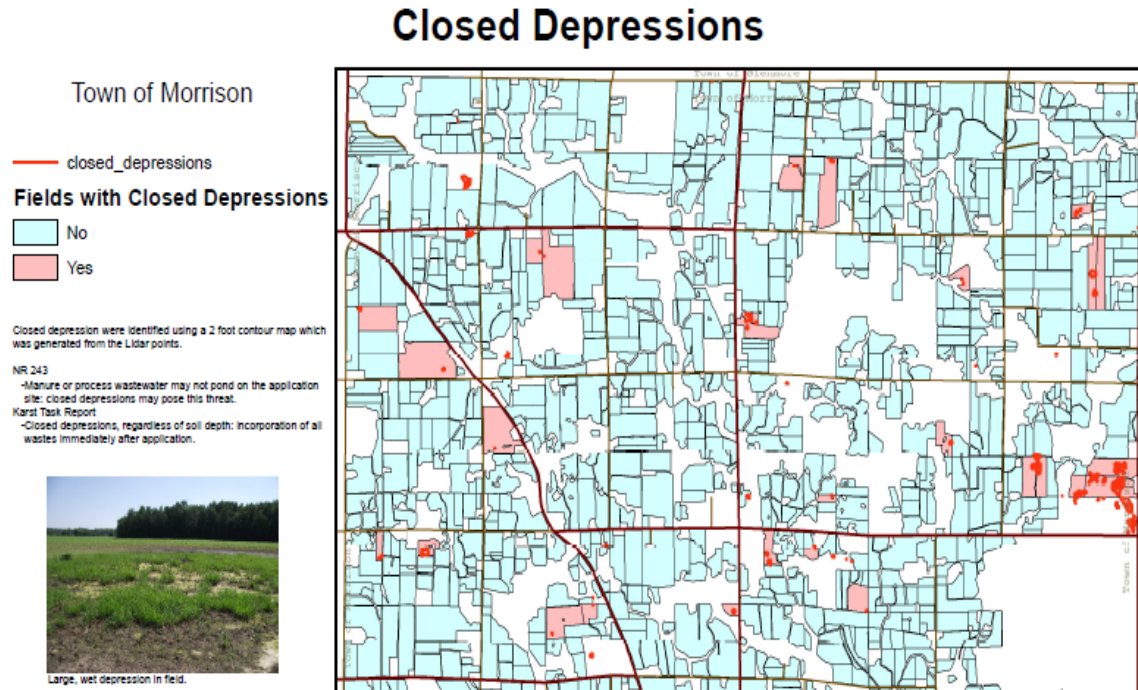

Figure 11
4. Brown County Closed Depression map – generated with 2 foot contour generated from LIDAR points (figure 11). Closed depressions shown *do not overlap* with bedrock soil units. Soils map can be overlaid onto this map using GIS.